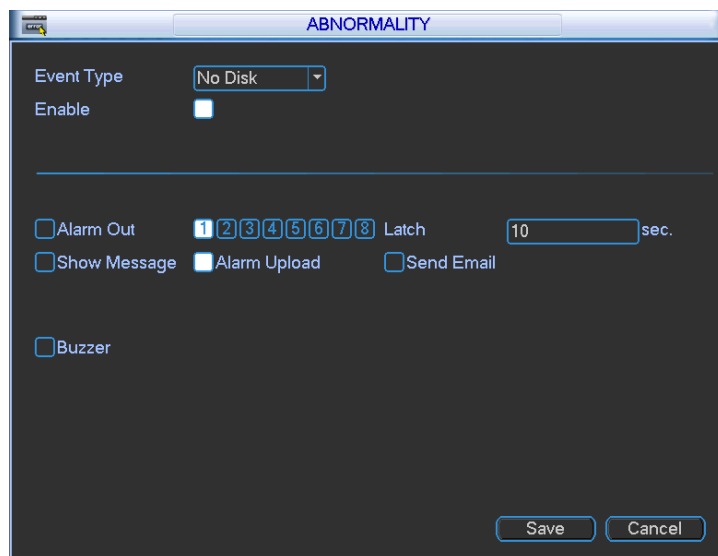

Figure 3-63
- Alarm set: Click alarm set button, the interface is shown as below. See Figure 3-63. (This interface is just like the abnormality setup). Please refer to chapter 3.6.2 for detailed information.